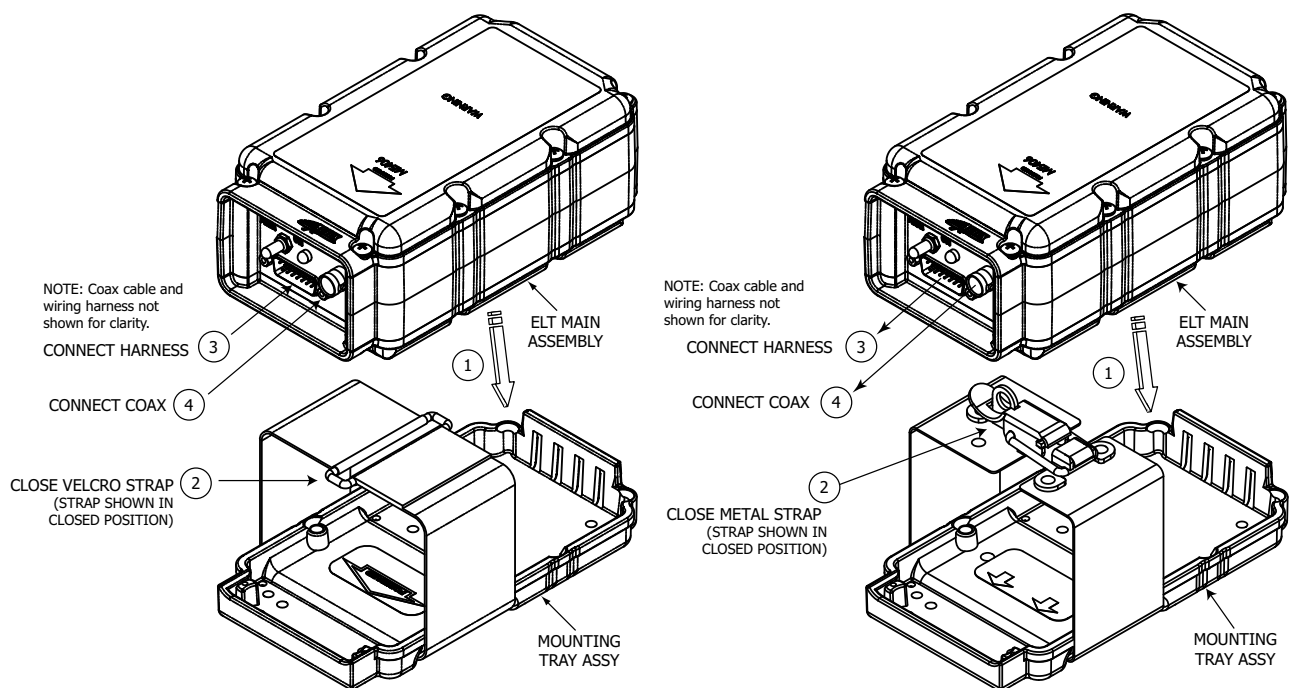

Figure 22 ELT Installation Sequence
- (1) See Figure 22 ELT Installation Sequence.